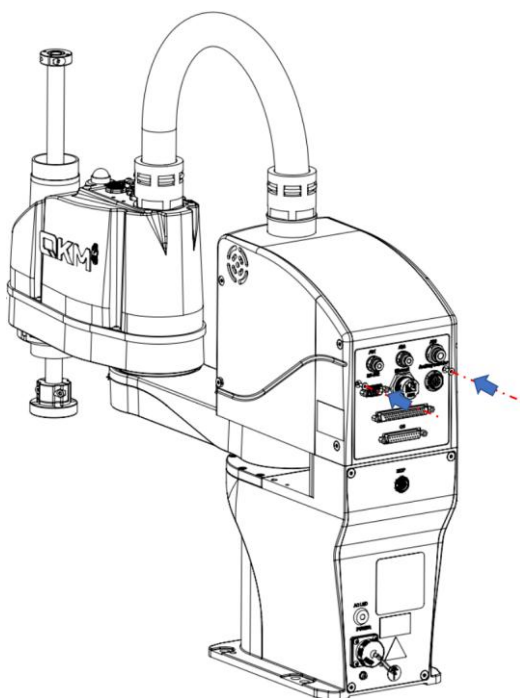

Figure 4-11 Installation of upper control cabinet interface panel
**Step 2** Use 2.5 mm Allen wrench to tighten the screws on the upper control cabinet of the robot (with a tightening torque of 2N·m), as shown in Figure 4-11.